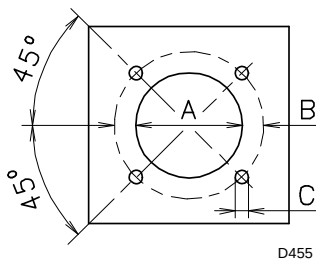

Fig. 12
Drill the combustion chamber locking plate as shown in (Fig. 12). The position of the threaded holes can be marked using the thermal screen supplied with the burner.
- Place entire burner on the boiler hole arranged previously, see (Fig. 12), and fasten with the screws given as standard equipment.